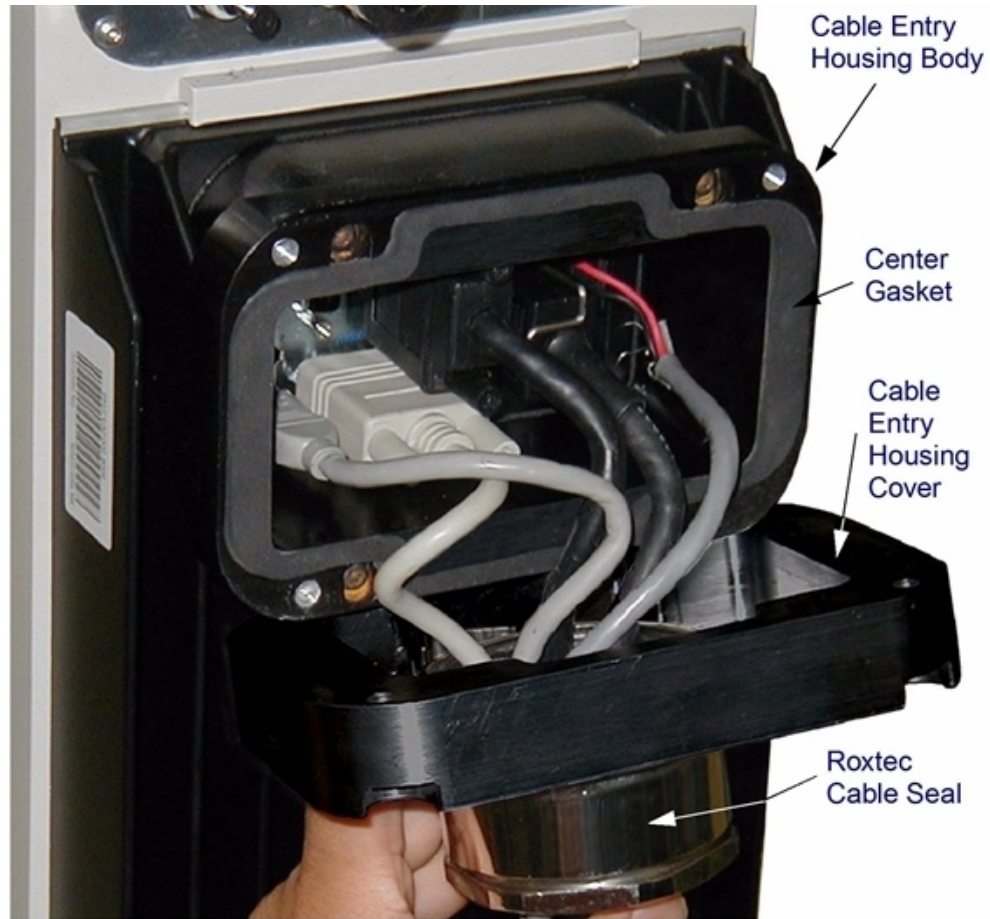

Figure 9-4. Cable Entry Housing with Cover Removed
**NOTE:** If you only need to disconnect cables from the AIB/eAIB, you can do so by just removing the cable entry housing cover, covered in this section. See Figure 9-4.
The cable entry housing cover is attached to the cable entry housing body with four screws. The Roxtec cable seal assembly is attached to the cable entry housing cover. See Figure 9-3 and Figure 9-4.